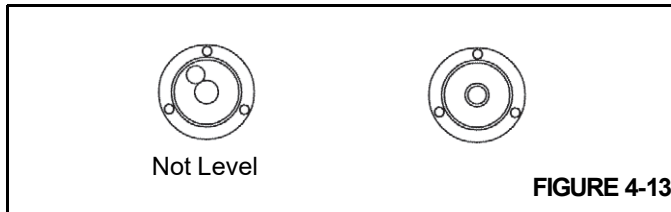

FIGURE 4-13
5. Repeat step 4 until all wheels are clear of ground and crane is level as indicated by bubble level indicator (Figure 4-13). If it is suspected that bubble level